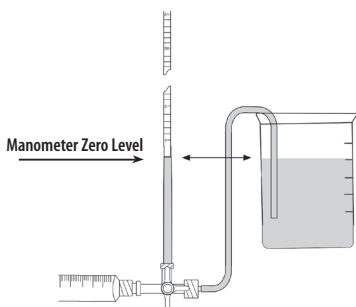

Figure A-5
3. Adjust the manometer height so that the zero level of the manometer and the fluid level in the water bath are at the same level (Figure A-5).
2. Allow the water column in the manometer to fall. The water column should stop at the zero level of the manometer (Figure A-5).